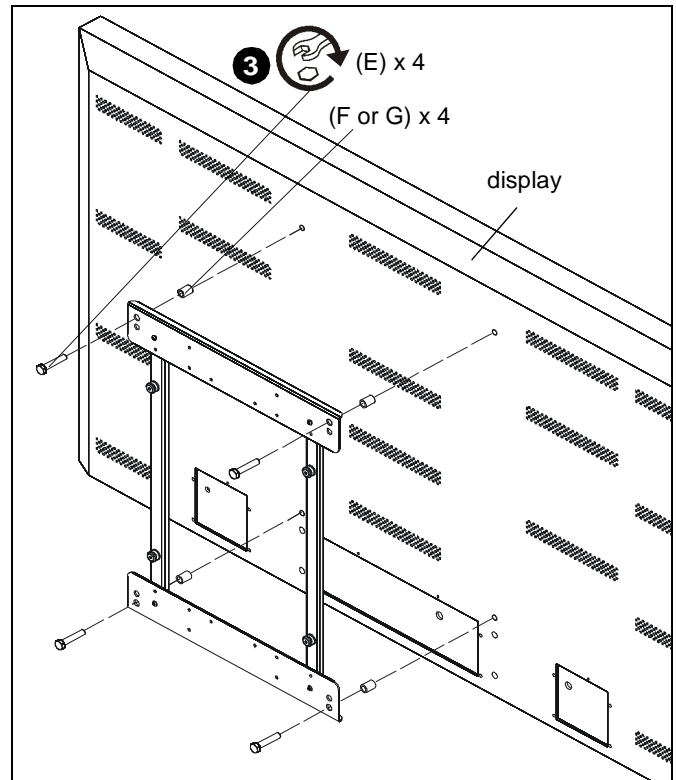

Figure 2
3. Attach interface bracket to back of display using four M10 x 50mm hex head tap bolts (E) and spacers (F or G). (See Figure 2)